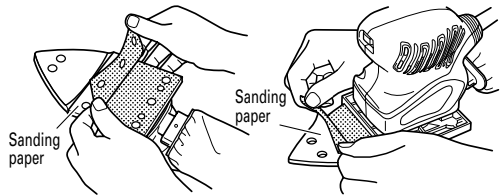

Fig. 1
- (1) Align the sanding paper's holes with the pad's holes (Fig. 1).